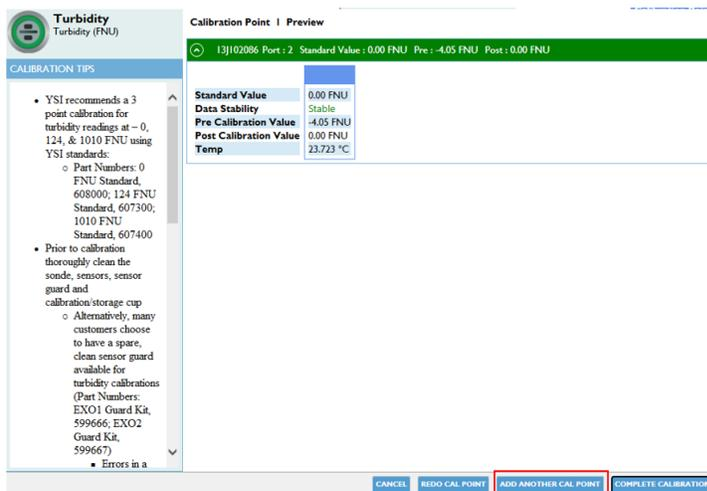

Figure 93. Continue adding calibration points.
**STEP 5** | Click on “Add Another Cal Point” (**Figure 93**) in the lower right corner of the **Device Calibrations** window to move to the next calibration point.